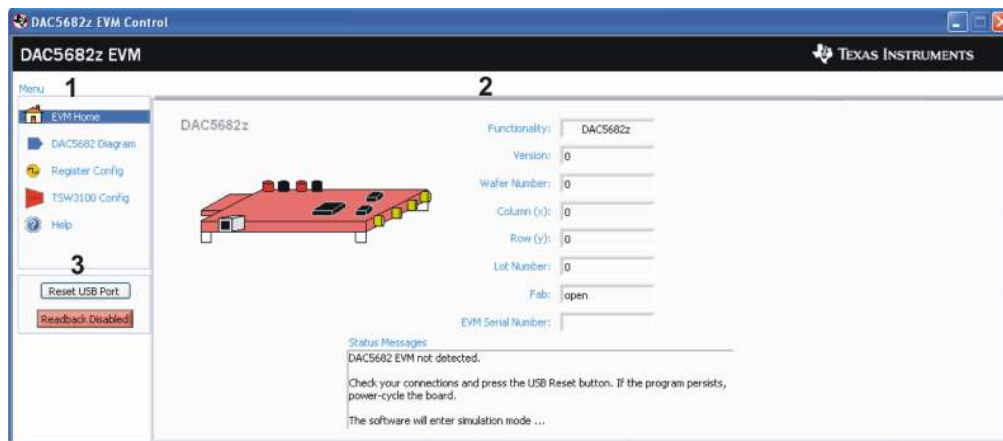

Figure 9. EVM Home Displaying EVM Status Settings
Figure 9 through Figure 12 displays some of the Menu software areas.
- **Menu**—switches between the major functionality listed in Table 4 and displayed in Figure 9.
Note: The numbers on Figure 9 through Figure 12 correspond to the numbered graphical user interface subareas (X), described in each table for the DAC EVM software functionality.